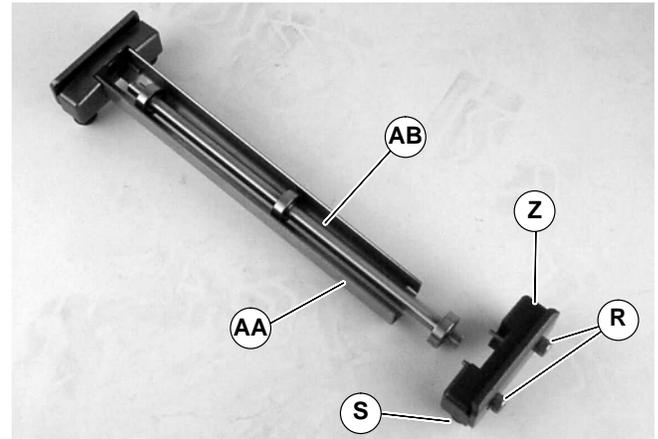

Figure 16
- Gather attachment components (Figure 16).